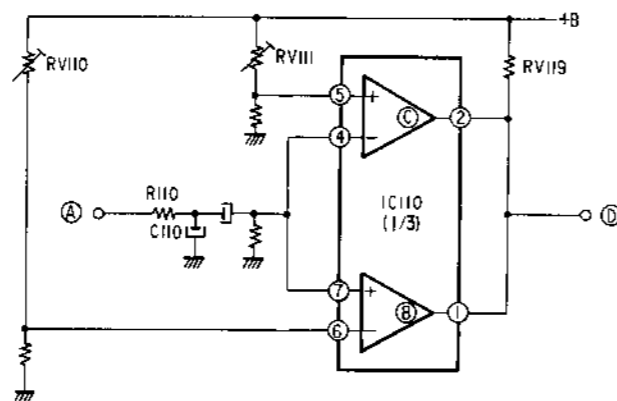

Fig. 4.
The vertical pulse in (A) is applied on pins 4 and 7 of IC110 through the low pass filter (R110 and C110) in Figs. 4 and 5. The constant voltage is applied on pins 5 and 6 of IC110 from B+ line through RV111 and RV110. Pulses (B) and (C) are outputted from pins 1 and 2 of IC110 respectively and the pulses are composed of, pulse (D) being obtained. This resultant pulse blanks out the picture portion whose width is equal to the band width of the tuning indicator.